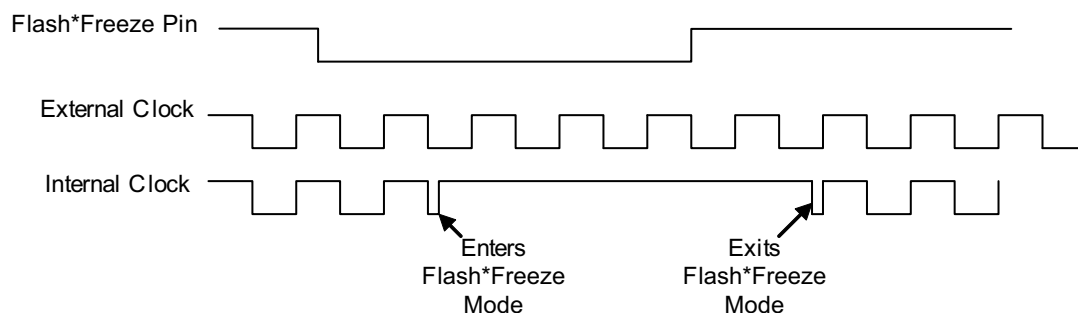

Figure 2-5 • Narrow Clock Pulses During Flash*Freeze Entrance and Exit
- While entering Flash*Freeze mode, inputs, globals, and PLLs will enter their Flash*Freeze state asynchronously to each other. As a result, clock and data glitches and narrow pulses may be generated while entering Flash*Freeze mode, as shown in Figure 2-5.